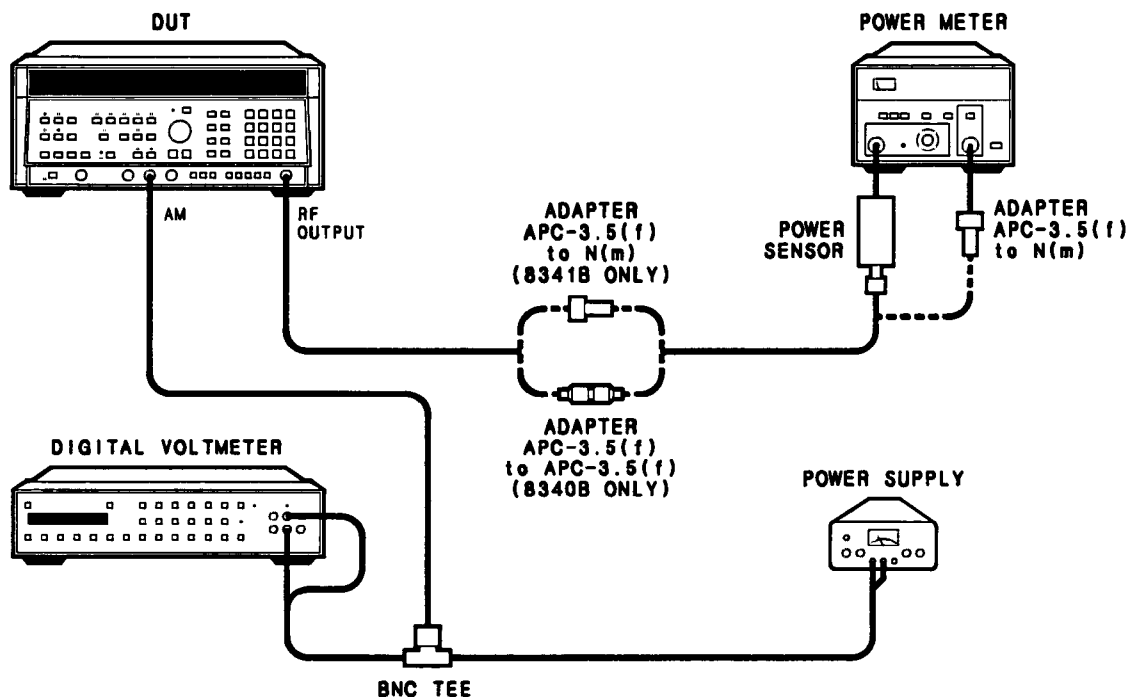

Figure 5-50. AM GAIN Adjustment Test Setup
28. Set up the following equipment as shown in Figure 5-50 with the power supply set to 0 Vdc. Allow the equipment to warm up for at least 30 minutes.